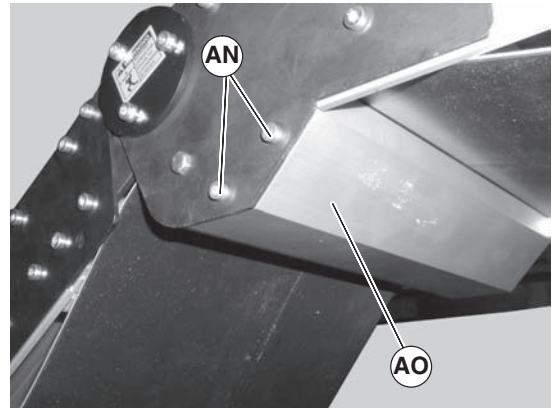

**Figure 16**
2. On tension end of the conveyor, identified by the pinion locking screw (Figure 16, item T), push in head plate assembly (V): Loosen the pinion locking screw (T), adjust the pinion torque screw (Figure 17, item W). On both sides of conveyor, loosen the two tail clamp bolts (Figure 16, item U), and push head plate assembly (V) inward.